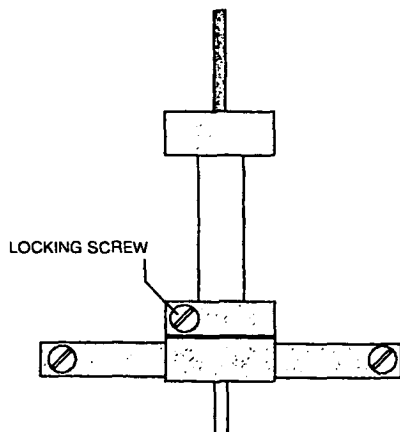
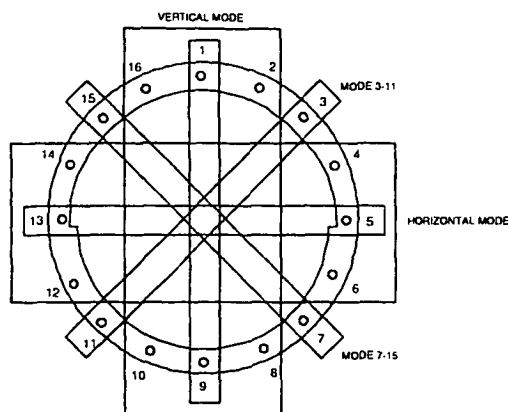

Figure 21 Trimmer in detail
Figure 22 QBC frequency mode
15. On the front side and the back side of the QBC you can find the adjustment screws for the trimmers. Loosen the screws that lock the trimmers for all QBC rods. (see Figure 21 and Figure 22)
3. Position the flux probe in position 3 - 11 (see Figure 22) and connect the right pick-up coil in stead of the left pick-up coil to the receive cable MGBX15.
To adjust the QBC, use the following trimmers according the measured offset: (See Figure 22)